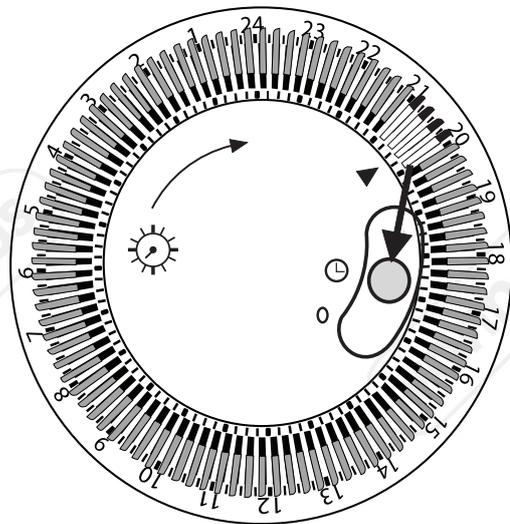

Fig 2
3. Move the timer switch to symbol "☉" to enable the timer (Fig 2).